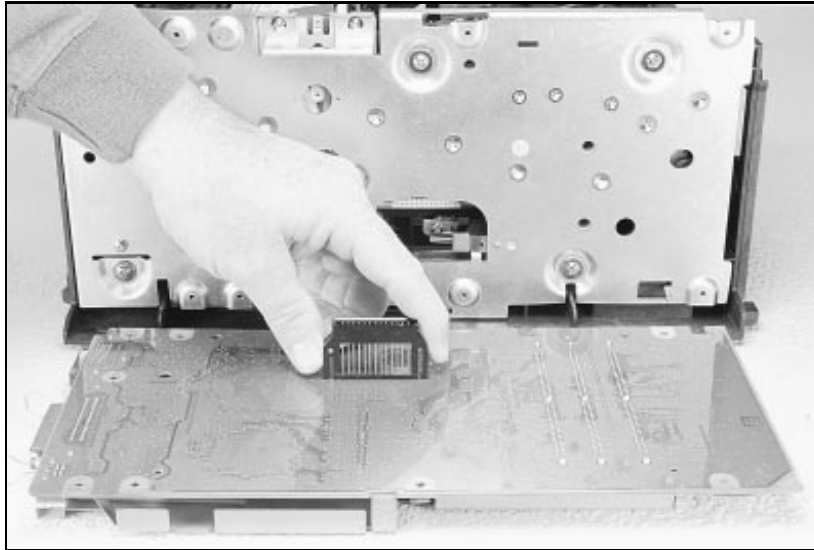

Figure 23 Removing the DC Controller Interconnect.
4. Pull the DC controller interconnect out (Figure 23).